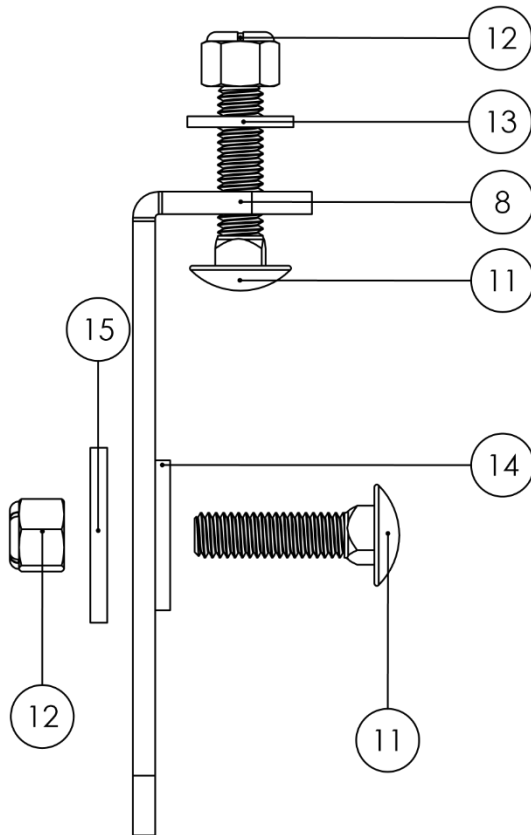

Figure 1
- 1. Install the Stake Pocket Insert Plates.** To install the Bases (Item No. 3) you must first install the Stake Pocket Insert Plates (Item No. 8). These Stake Plates will be held by two bolt assemblies and be put together in the order as shown in Figure 1. The top bolt assembly will hold the base while the bottom will provide additional stabilization to the rack. Begin by threading the top bolt assembly onto the Stake Pocket Insert Plate but allow the Lock Nut (Item No. 12) to sit at the top of its thread. Follow up with the bottom bolt assembly by only inserting the 1.5" Carriage Bolt (Item No. 11) for now. Next, insert the Stake Pocket Insert Plate into your truck's stake pocket. It may be necessary to tilt the plate diagonally if you are having difficulties during insertion. Complete the installation by tightening both bolt assemblies at increasing firmness. If necessary, use the provided Rubber Washer (Item No. 14) to stabilize and reduce the gap between the plate and the truck's bed frame.